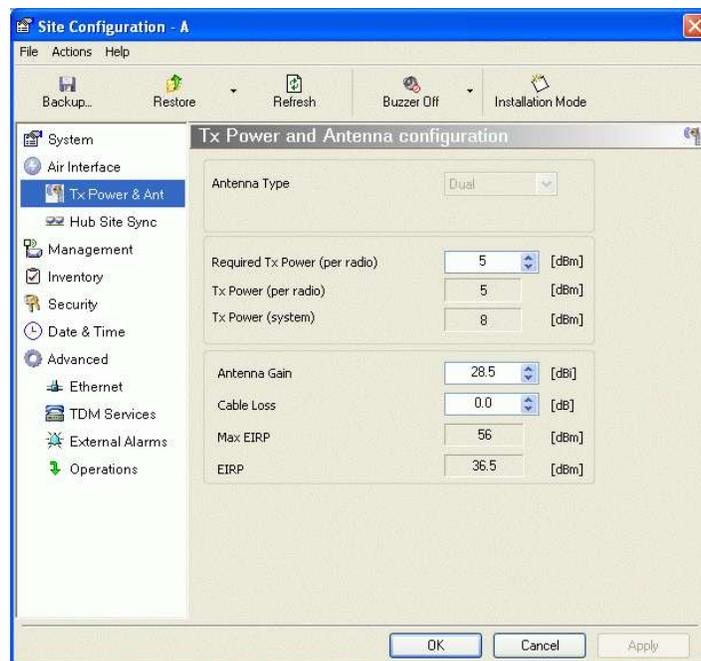

Figure 4-25. Changing the Transmit Power
3. Select Air Interface (see Figure 4-25).